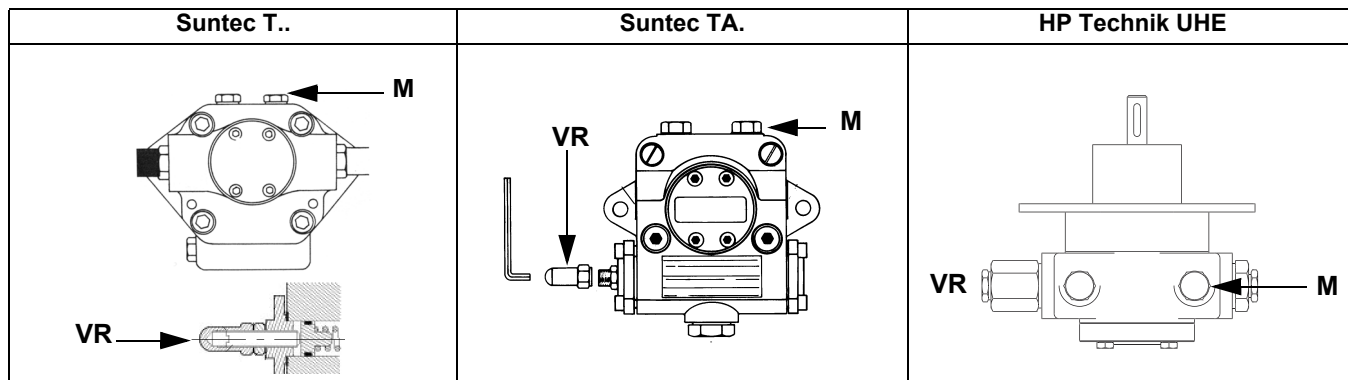
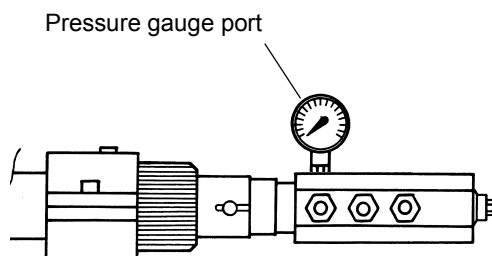

Fig. 9
Fig. 10
- 3 bleed the air from the **M** pressure gauge port (Fig. 9) by loosening the cap without removing it, then release the contactor.
- 5 Only if necessary, adjust the supply pressure as follows (see related paragraph); insert a pressure gauge into the port shown on Fig. 10 and act on on the pump adjusting screw **VR** (see Fig. 9) as to get the nozzle pressure at 20bar (Monarch or Fluidics nozzles - see page 40-38).